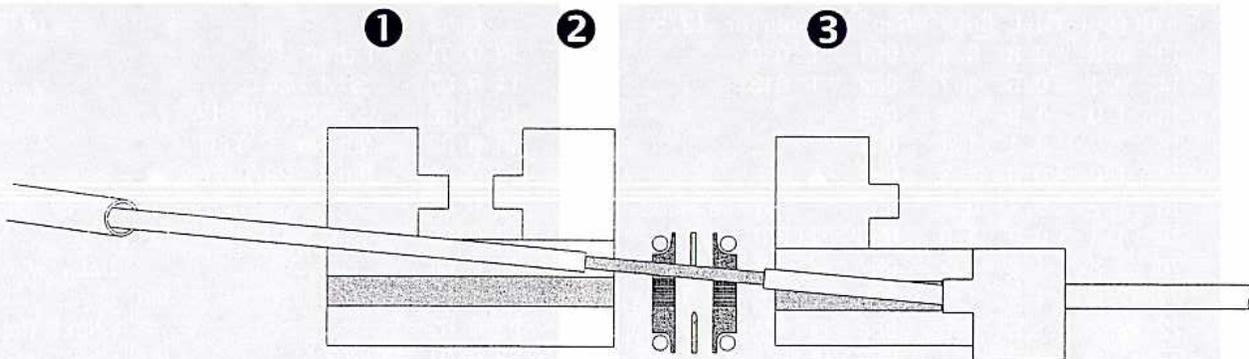

Figure 31. Opening Fiber Holder Covers
3. Open the fiber holder lids in the order as shown in Figure 31, while maintaining a slight amount of tension on the free end of the fiber.